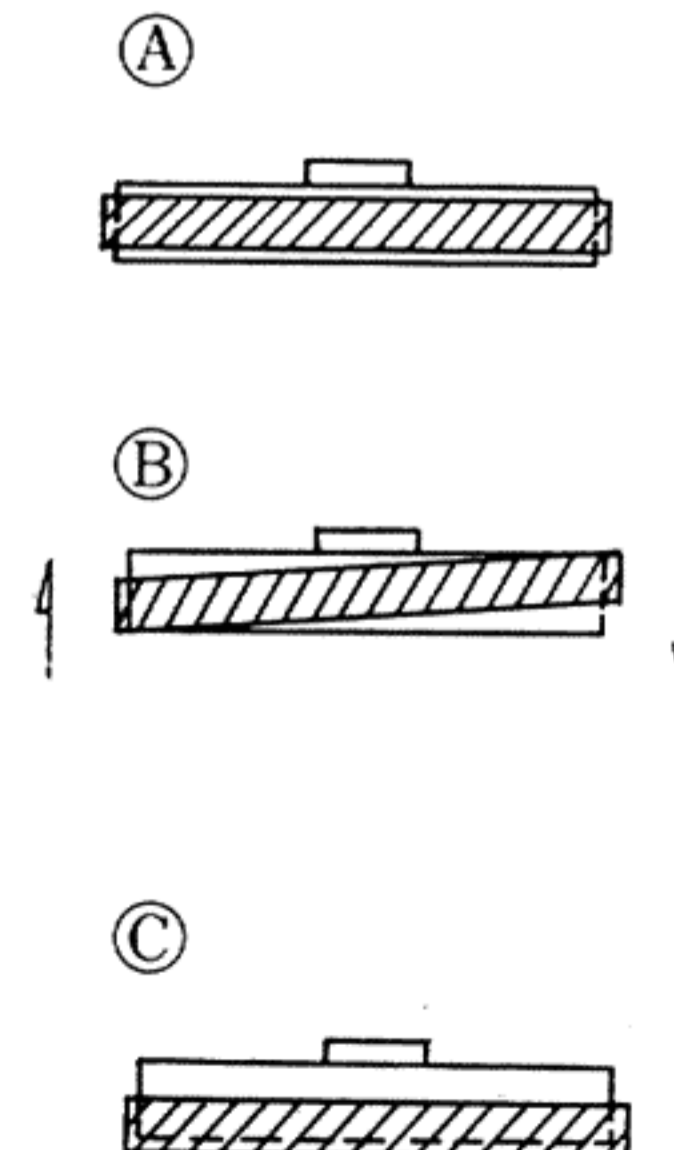

Fig. 22
- 1) Check and adjust the position of the brake liner and brake drum (Fig. 22).